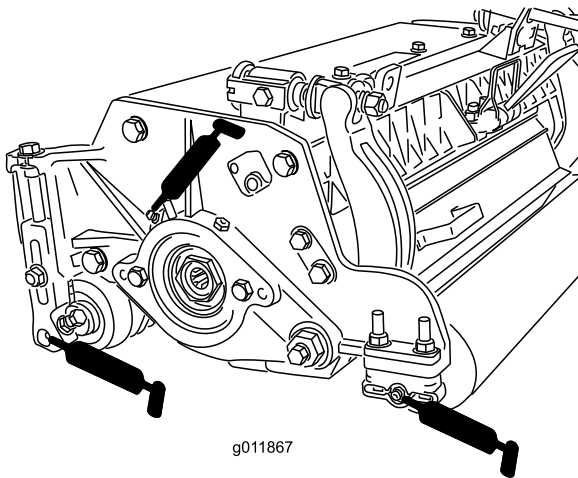

Figure 25
Each cutting unit has (6) grease fittings (Figure 25) that must be lubricated regularly with No. 2 General Purpose Lithium Base Grease.